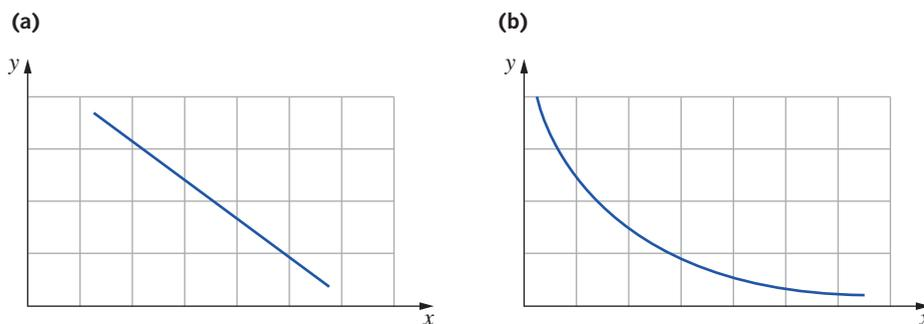

FIGURE 1.4.6 An inverse relationship in which one variable decreases as the other variable increases. The relationship may be (a) direct or (b) exponential.
- When there is an **inverse relationship**, one variable increases as the other variable decreases (Figure 1.4.6).